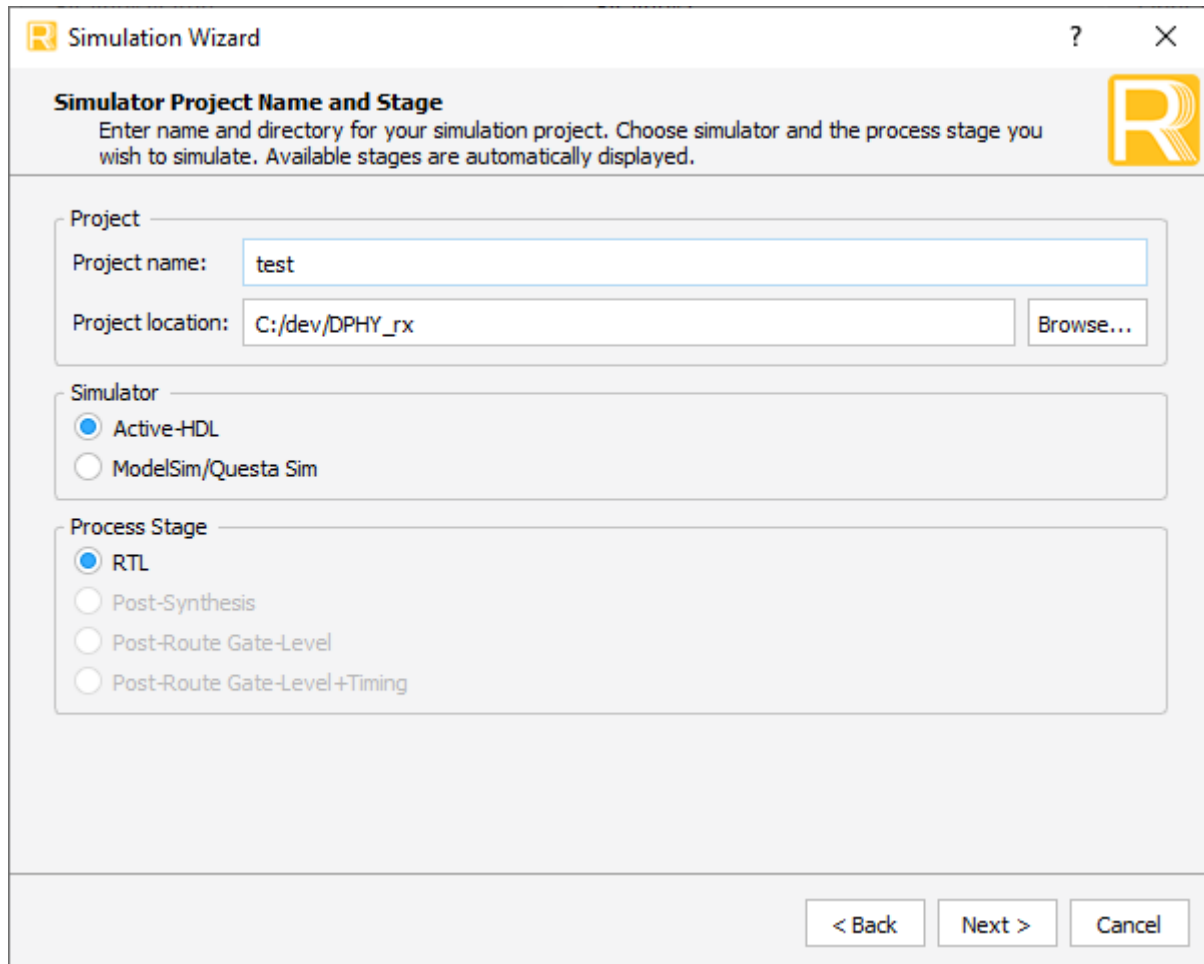

Figure 6.4. Simulation Wizard
2. Click the  button located on the **Toolbar** to initiate the Simulation Wizard shown in Figure 6.4.